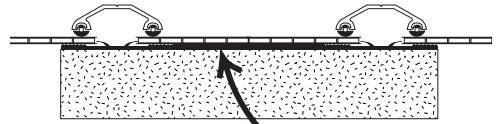

Fig. 3 Eaves Filler
Step 3: At the same time, fix the eaves filler (Ref. 226F) across the structure at the eaves end (Fig. 3). This solves the problem of filling the gap between the underside of the sheet and the top of the support structure.